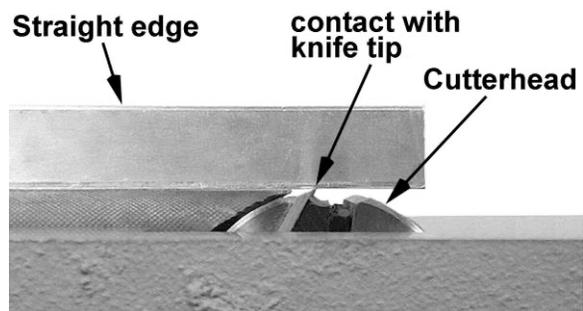

Figure 23
6. With the *outfeed table handwheel* (Figure 21) raise or lower the *outfeed table* until the *straight edge* contacts the *knife tip*, as shown in Figure 23. Using the drive belt or pulley, rock the cutterhead slightly to make sure the apex of the knife is just barely contacting the *straight edge*.